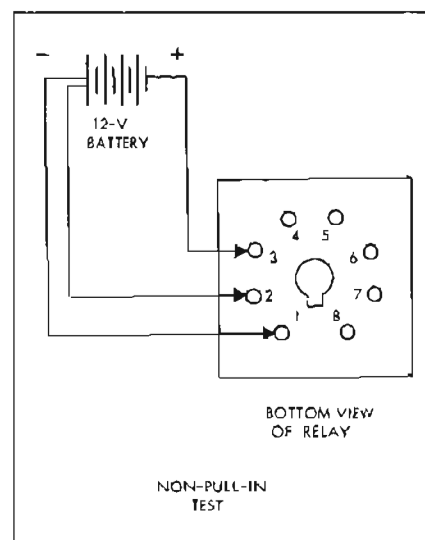

Figure 11-180—Relay Non-Pull-In Check
(1) Connect pins 1 and 2 to the negative terminal of a 12 volt battery. See figure 11-180.
(2) Connect pin 3 to the positive terminal of the battery.
(3) Connect a 12 volt test lamp such as a #57 lamp between the negative terminal of the battery